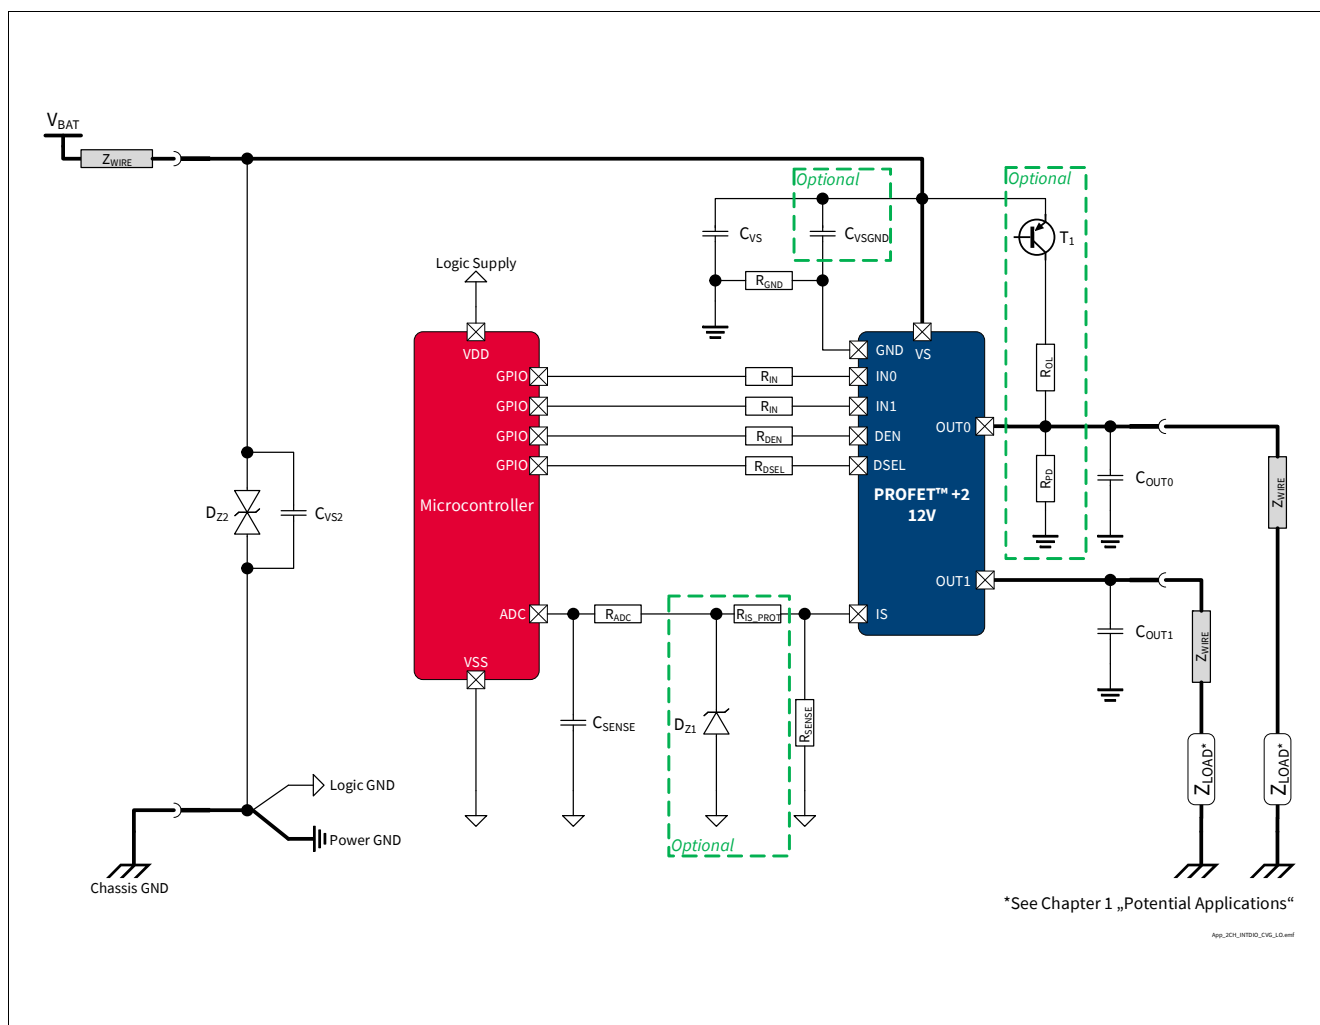

Figure 43 BTS7012-2EPA Application Diagram
1.05 , 2019-10-15	<p>P_8.7.3.1, P_8.7.3.7, P_8.7.3.8 updated (added in Note or Test Condition: link to Figure 25)</p> <p>P_7.5.3.4, P_7.5.3.5 updated (added in Note or Test Condition: DEN = "low"; link to Figure 19)</p> <p>P_7.5.3.12 updated (added in Note or Test Condition: see Figure 21; deleted unnecessary space in Symbol: $dV_{OUT} / dt \rightarrow dV_{OUT} / dt$)</p> <p>P_8.7.3.6 updated (added in Note or Test Condition: see Figure 26)</p> <p>P_9.7.3.1 updated (added in Note or Test Condition: See Figure 34)</p> <p>P_9.7.3.6 updated (Min./Typ./Max.: -45%/4800/+45% → -34.0%/4875/+34.0%)</p> <p>P_9.7.3.9 updated (Min./Typ./Max.: -38%/4800/+38% → -25.0%/4875/+25.0%)</p> <p>P_9.7.3.12 updated (Min./Typ./Max.: -34%/4800/+34% → -22.5%/4875/+22.5%)</p> <p>P_9.7.3.15 updated (Min./Typ./Max.: -22%/4800/+22% → -12.5%/4875/+12.5%)</p> <p>P_9.7.3.17 updated (Min./Typ./Max.: -9%/4800/+9% → -7.7%/4875/+7.7%)</p> <p>P_9.7.3.19 updated (Min./Typ./Max.: -6%/4800/+6% → -4.5%/4875/+4.5%)</p> <p>P_9.7.3.21 updated (Min./Typ./Max.: -5%/4800/+5% → -4.0%/4875/+4.0%)</p> <p>P_7.5.3.11 updated (added in Note or Test Condition: see Figure 19)</p> <p>Figure 1, Figure 43 updated</p> <p>Chapter 1 updated (or LED equivalent → or equivalent electronic loads (e.g. LED modules))</p> <p>P_4.3.0.7 added</p> <p>Table 24 updated</p> <p>Chapter 5.1 updated (added: see Chapter 10 for the complete application setup overview)</p>